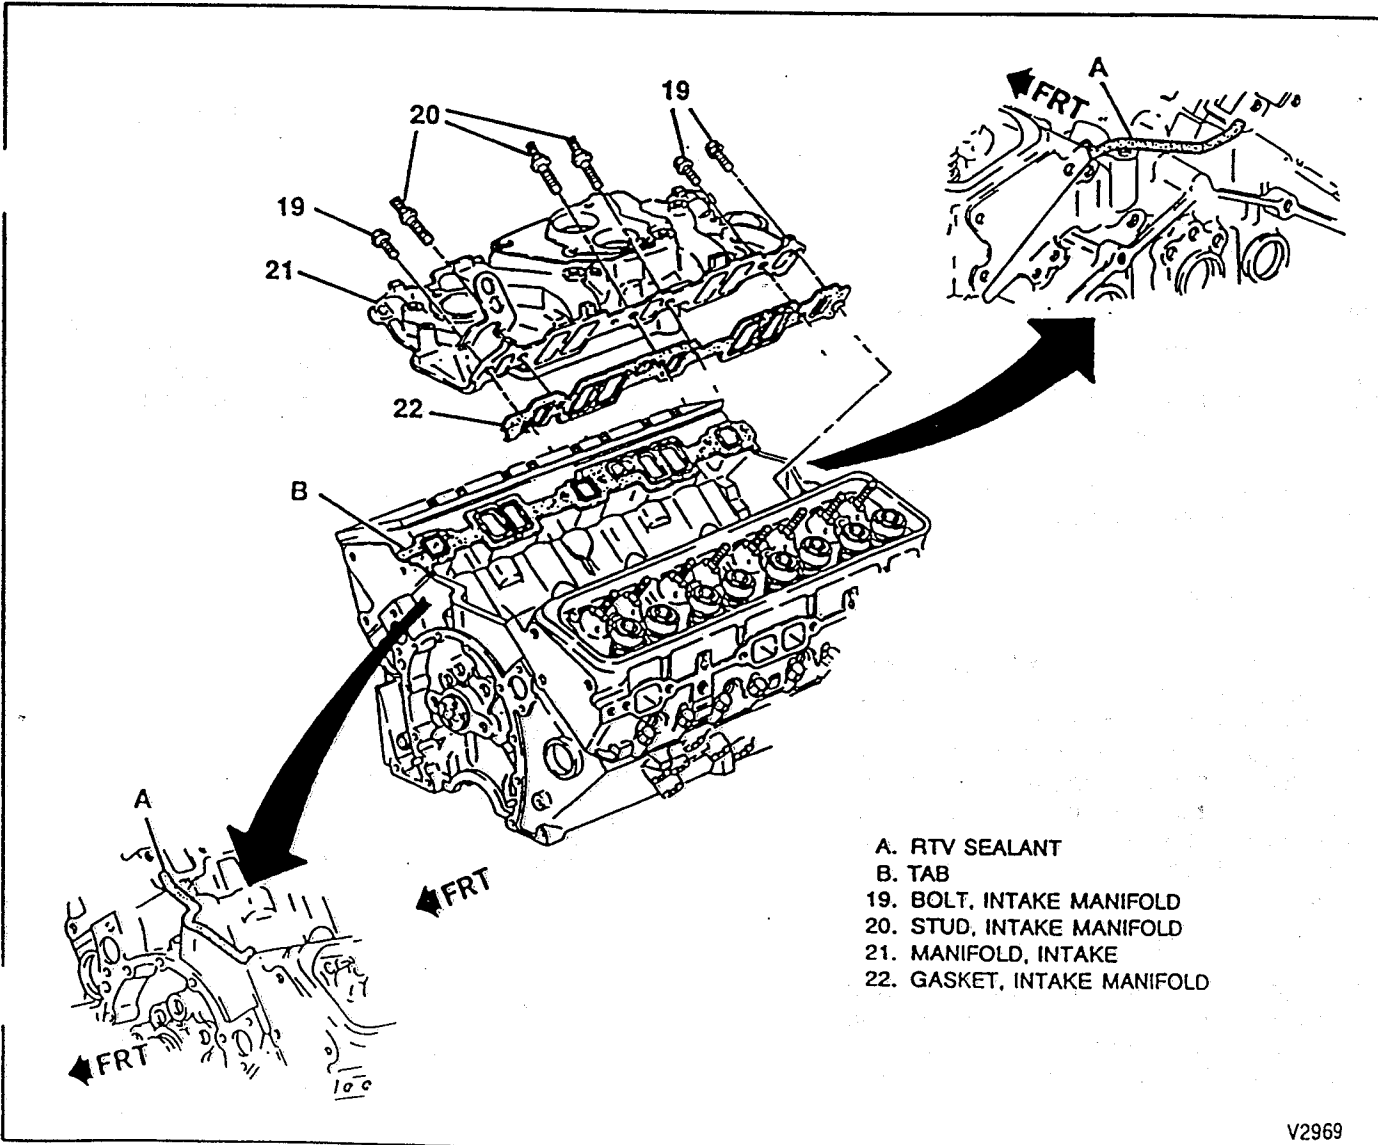

Figure 94—Intake Manifold (5.0L and 5.7L Engines)
↔ Install or Connect (Figures 94 and 95)
1. Gaskets (22) to the cylinder heads.
- Refer to figure 94.
3. Intake manifold (21) to the engine.